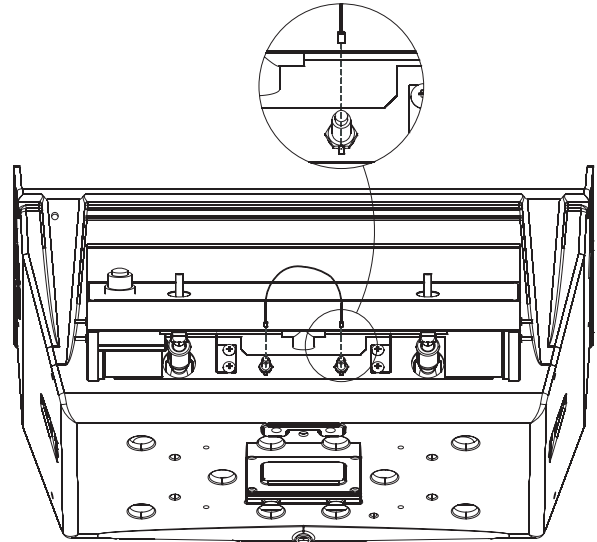

Figure 8
- Attach ignitor ground wire ends onto ground lugs. See Figure 8.